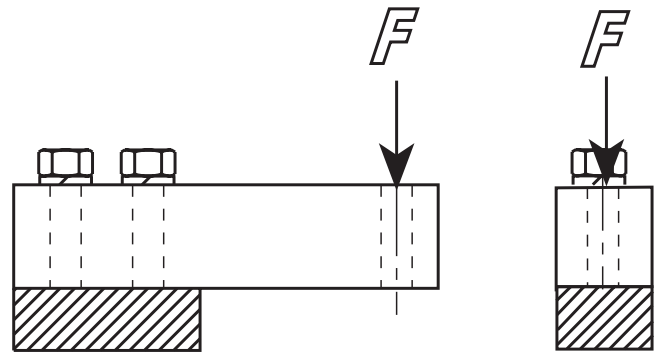

Figure 2-1
- The load should be applied vertically through the center line of the load hole (the load may be applied from above, as illustrated in Figure 2-1, or may be hung from below).